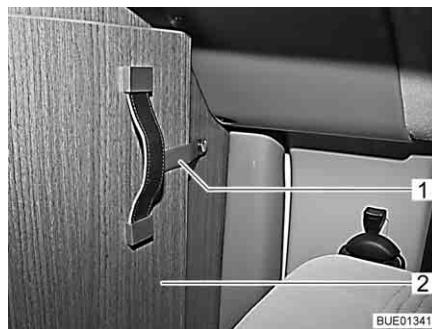

Fig. 55 Securing strap
- Release the securing strap (Fig. 55,1) from the foldable section of the driver's cabin partition (Fig. 55,2).